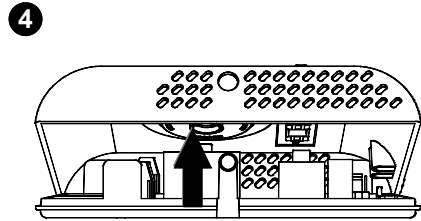

Fig. 5
- 4** Turn the cover, while pressing it slightly, until it is fully extracted (Fig. 5).